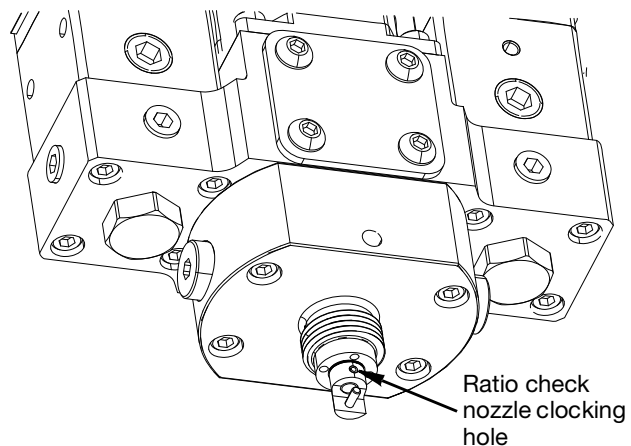

FIG. 34
- Clean tip of nozzle with compatible solvent. Make sure the ratio check nozzle clocking hole is free of material. See FIG. 34.